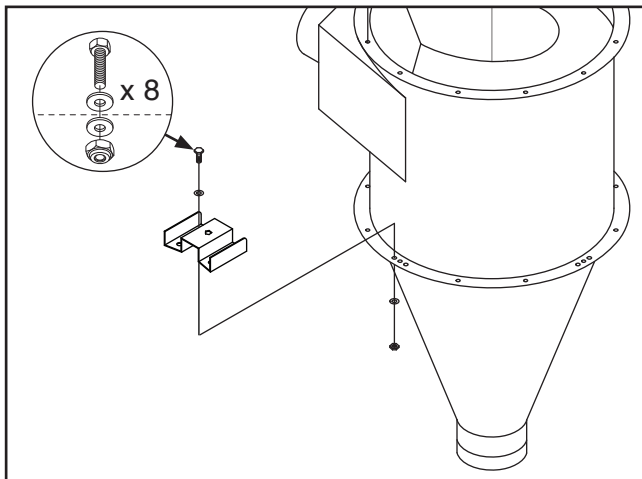

Figure 14. Collector mounting brackets and securing fasteners.
- Attach collector mounting brackets to intake assembly, as shown in **Figure 14**, using (8) $\frac{5}{16}$ "-18 x 1" hex bolts, (16) $\frac{5}{16}$ " flat washers, and (8) $\frac{5}{16}$ "-18 lock nuts.